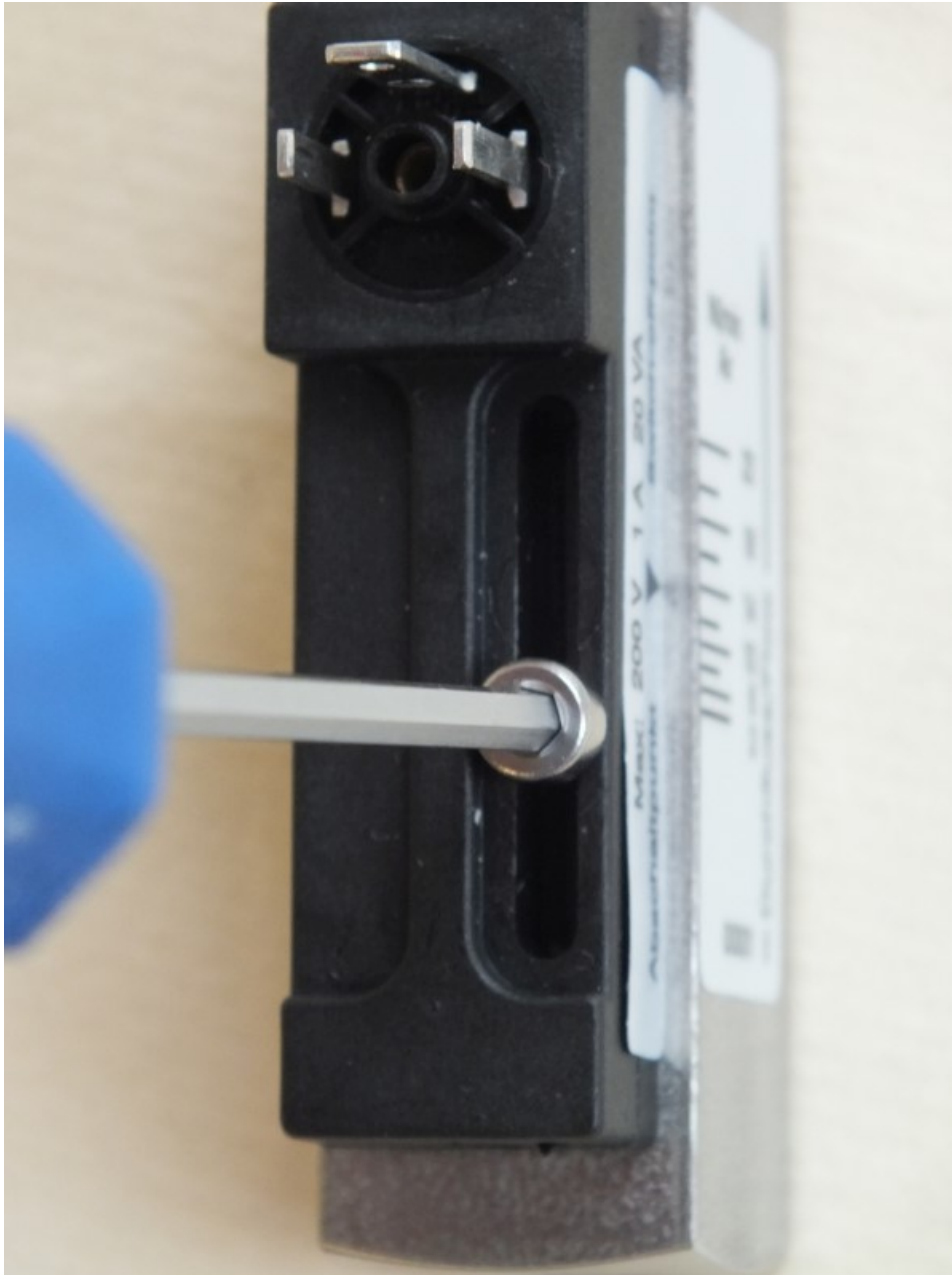

Fig. 32: Loosen set screw
1. ➤ Loosen the set screw of the switch contact (Fig. 32) using a Hex screwdriver.
3. ➤ Re-tighten the set screw of the switch contact (Fig. 32) using a Hex screwdriver. When doing so, observe the correct tightening torque of the screws.